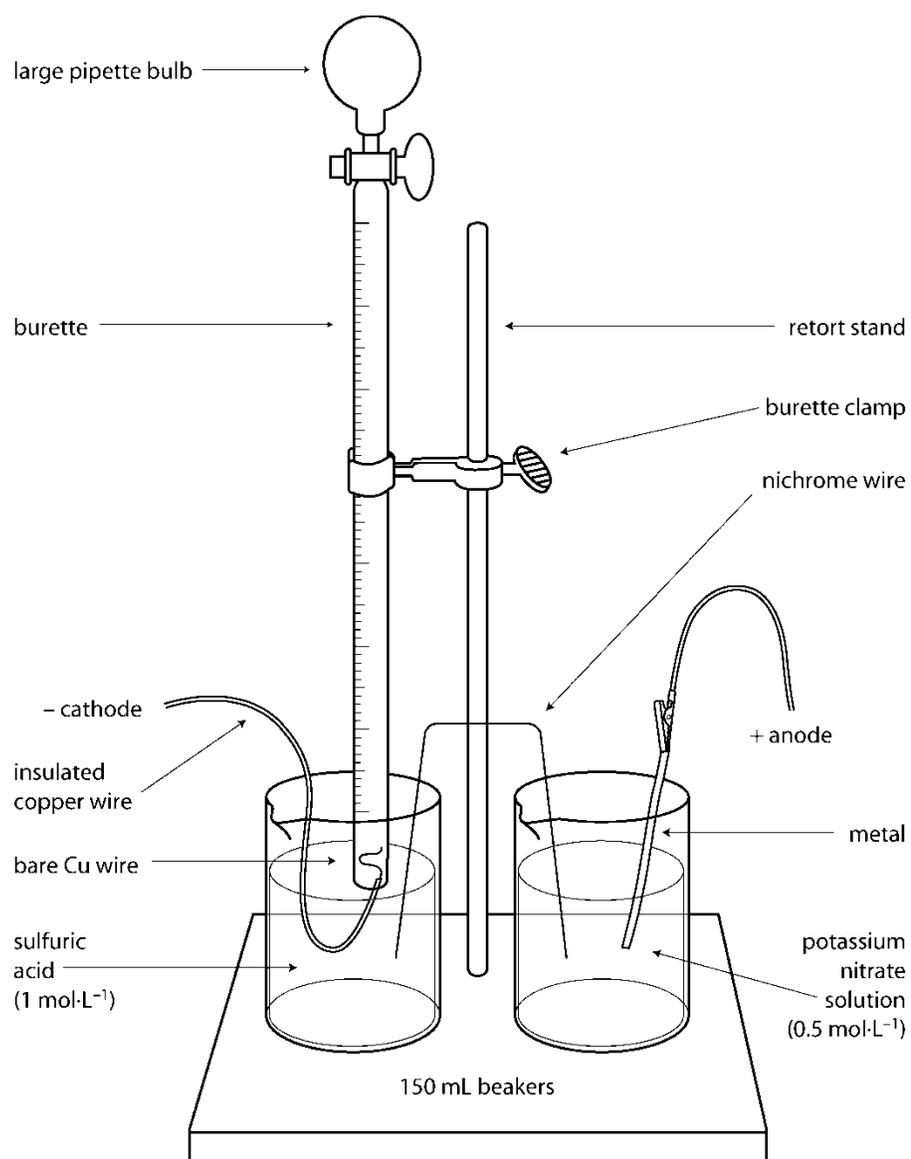

Figure E2.1:
3. Use a retort stand to support an inverted burette. Insert the bare, coiled end of the heavy copper wire into the mouth of the burette, and lower the burette into the beaker containing the sulfuric acid (see Figure E2.1 on following page).
4. Attach a large rubber bulb to the tip of the burette as shown in Figure E2.1. Open the stopcock, and use the rubber bulb to draw sulfuric acid into the burette until the level of the acid is approximately at the 0-mL mark (near the top). Close the stopcock.
5. Connect your strip of unknown metal to the positive terminal of the power source using the wire and alligator clips provided. Partially immerse the metal strip into the potassium nitrate solution as shown in Figure E2.1.
6. Connect the two half cells by placing one end of a bent piece of nichrome wire so that each end is partially immersed in the solutions (see Figure E2.1). The wire used should be about 40 cm long.